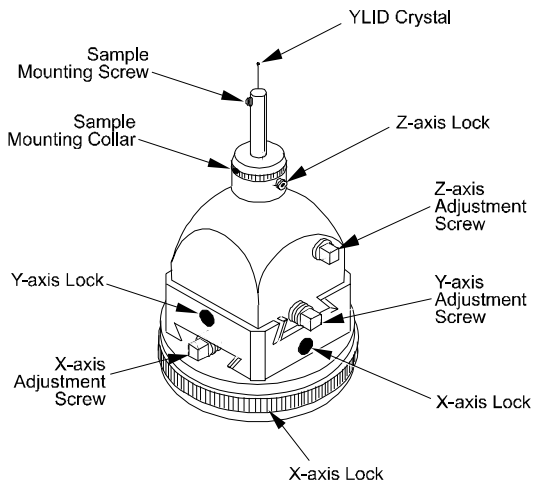
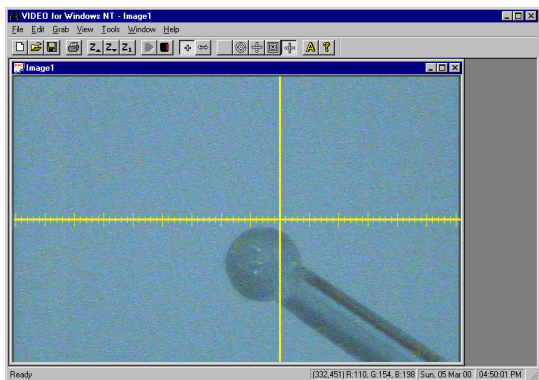

Figure 4-21. Goniometer head adjustment locations
Figure 4-23. Crystal near the crosshairs intersection
Also during optical alignment, you will adjust the goniometer head at screw locations shown in Figure 4-21. Use the goniometer wrench to unlock the axis adjustment locks and later lock them. Use the other end of the wrench to turn the adjustment screws.
4. Adjust the goniometer head's Z-axis adjustment screw (recall Figure 4-21) until the crystal is near the crosshairs intersection on the video screen (Figure 4-23).